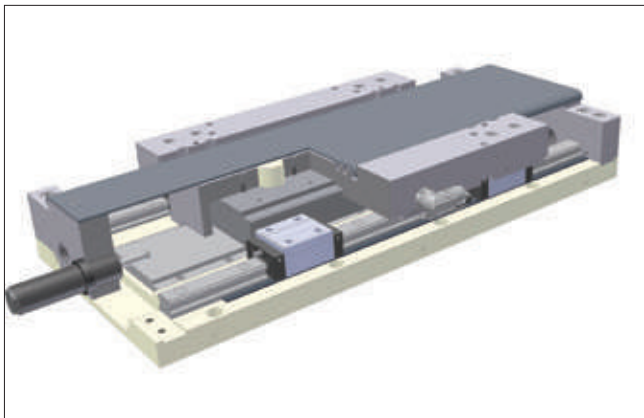

Figure 5.13 _ AXLM with cover plate
- Optimal protection of the inside placed guiding and drive elements by the optional use of bellows or cover plates (Figures 5.13 and 5.14)